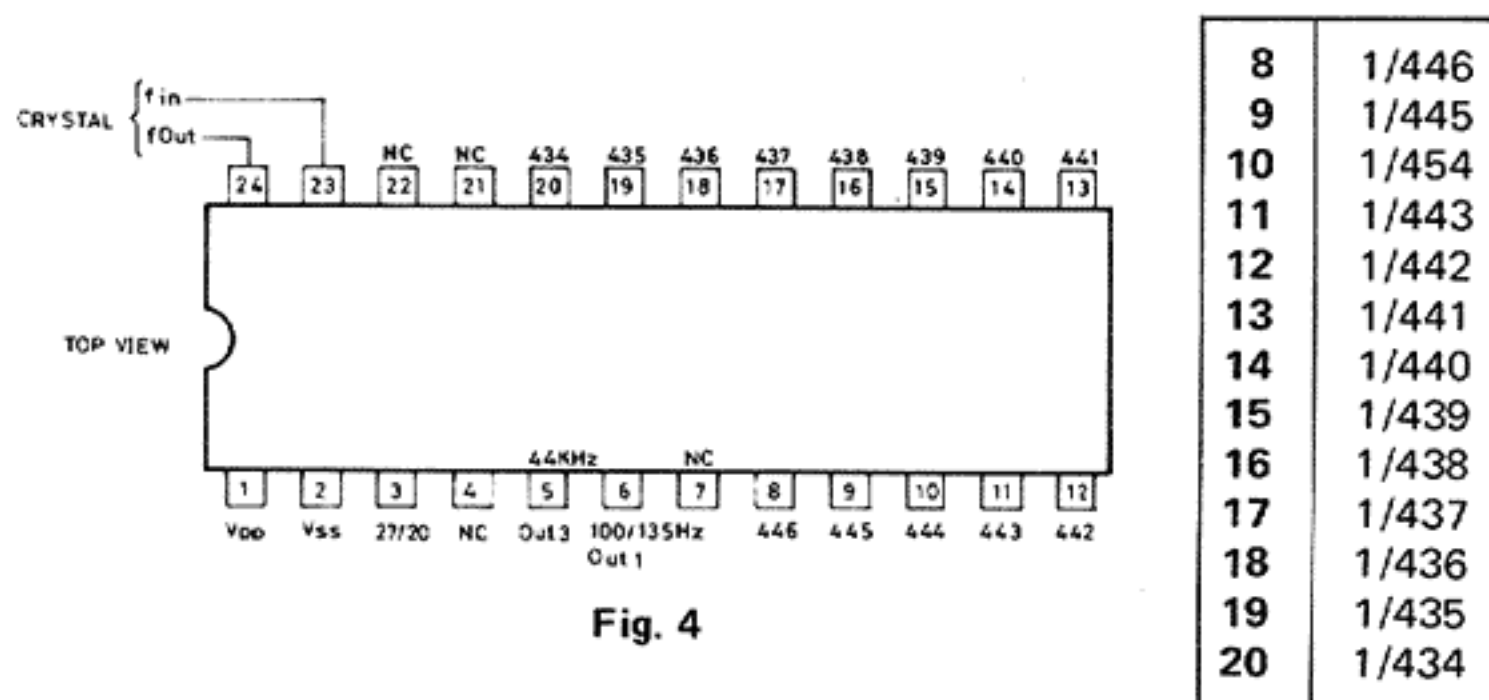

Fig. 4
The pin-connections are shown in Figure 4.
- This section encodes and decodes the $\pm 6\text{Hz}$ adjustment, which results in a maximum $\pm 6\text{Hz}$ deviation from the basic $1/440$ demultiplication of a pulse input to permit indication by the indicator lamp. Push buttons are provided to cause two pulse generation circuits to generate SLOW and FAST pulses. Figure 4 shows the SLOW pulse generation circuit in which the output of IC805, consisting of two NAND circuits is latched to the first input pulse, thus holding it stable to succeeding noise generated by push-operation. Depression of the button yields an increment of deviation and releasing it enables the deviation to be set at that level. In addition, another pair of NAND circuits in IC804 receives a -6Hz clamp signal input from Pin (1) of M53354 to prevent pulse inputs also created by the push-button switch operation from producing outputs causing the deviation to proceed beyond -6Hz .